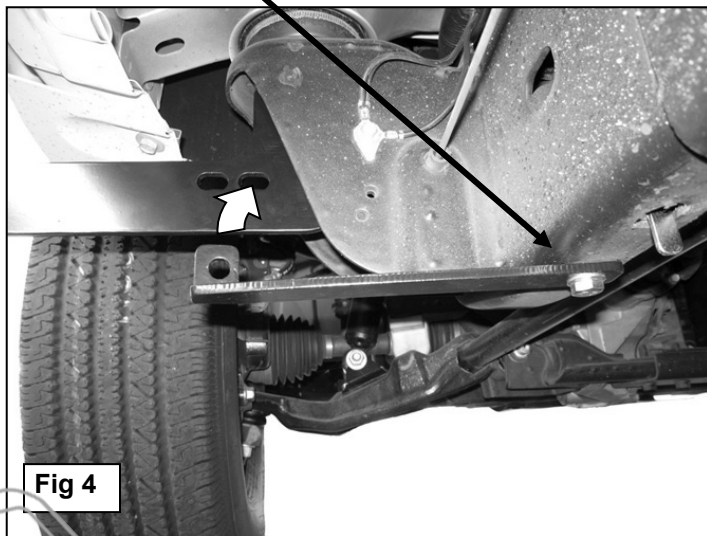
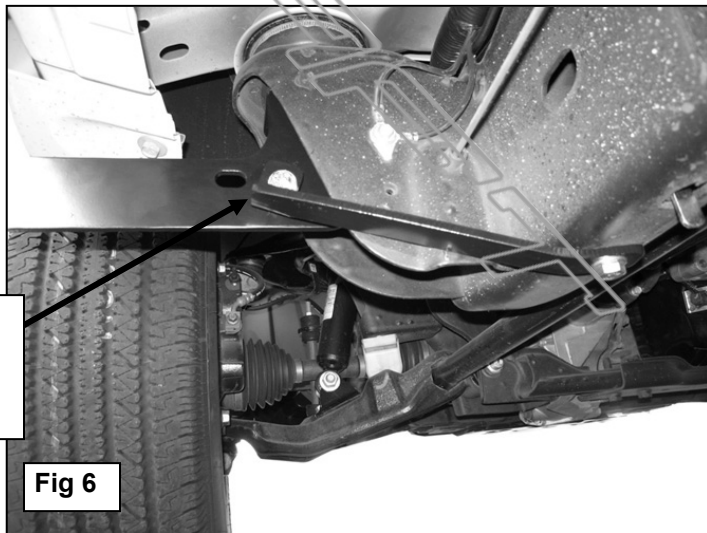

Fig 4
Fig 6
Note that the Front Support Bracket will not reach up to the Mounting Bracket, (Figure 4). Tighten the Support Bracket to the Nut Plate in the frame. Carefully push up on the Support Bracket until it reaches the inside hole in the Mounting Bracket, (Figure 5). Bolt the Support Bracket to the hole in the Mounting Bracket with (1) 10mm x 30mm Hex Bolt, (2) 10mm Flat Washers, (1) 10mm Lock Washer and (1) 10mm Hex Nut, (Figure 6). Do not tighten at this time.